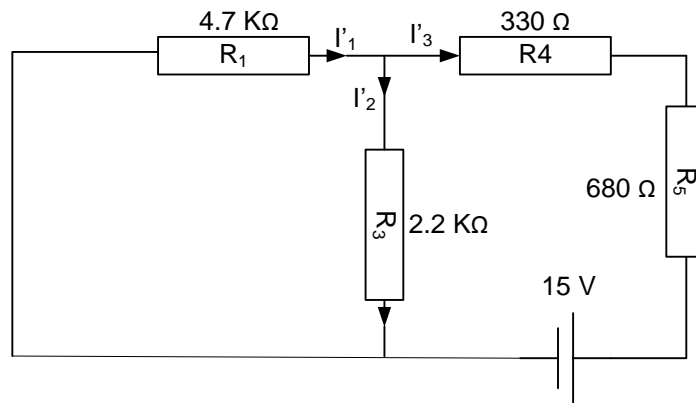

Figure 6
4. Connect the circuit as shown in Figure 6, then measure and tabulate the currents I''₁, I''₂ and I''₃ as in Table 2. You should have found that the sum of the currents due to individual voltage source is equal to the current resulting when both sources are present in the network.